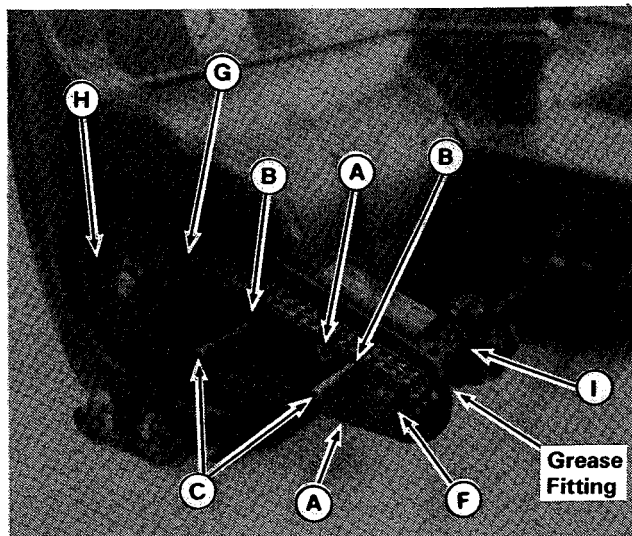

Figure 11B.
- a. One fitting is located at shaft next to chain housing (figure 11B).
3. There should be no slack in the chain and the sprockets (F & H, figure 11B) should be aligned. The drive shaft (I) should be parallel with the auger housing. To adjust, proceed as follows:
- a. Loosen the two screws (A) and two nuts (B).
- b. Pull rearward on the drive shaft (I) until all slack is removed from chain. With drive shaft parallel to auger housing and sprockets aligned, retighten the two screws (A) and nuts (B). Be sure to hold nuts while tightening screws (A) and hold screws (inside housing) while tightening nuts (B). Torque to 40-45 ft. lbs.
- d. Reinstall the chain guard and two nuts. Be sure to re-install the spacers on the studs (C) before installing guard (D).